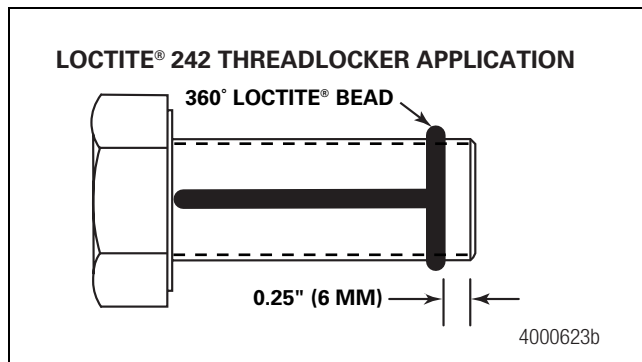

Figure 4.13
13. Apply a 0.125-inch (3 mm) bead of Loctite® 242 threadlocker around the capscrew threads approximately 0.25-inch (6 mm) from the end. Apply a 0.125-inch (3 mm) bead of Loctite® 242 threadlocker across the length of the threads. Figure 4.13.